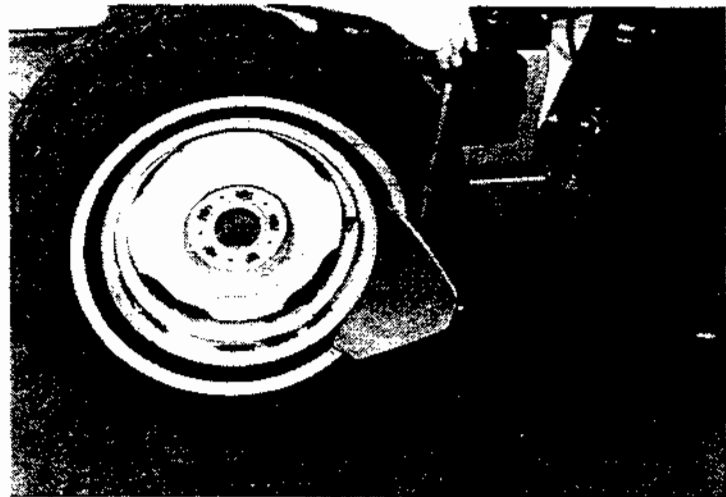

Fig. 3
2. Roll the wheel & tire into position & loosen the bead using pedal [2]. You may have to loosen the bead in more than one place around the rim. After loosening the bead on one side, turn the wheel around and loosen the bead on the other side. See Figure 3. Apply rubber lubricant liberally to the bead area.